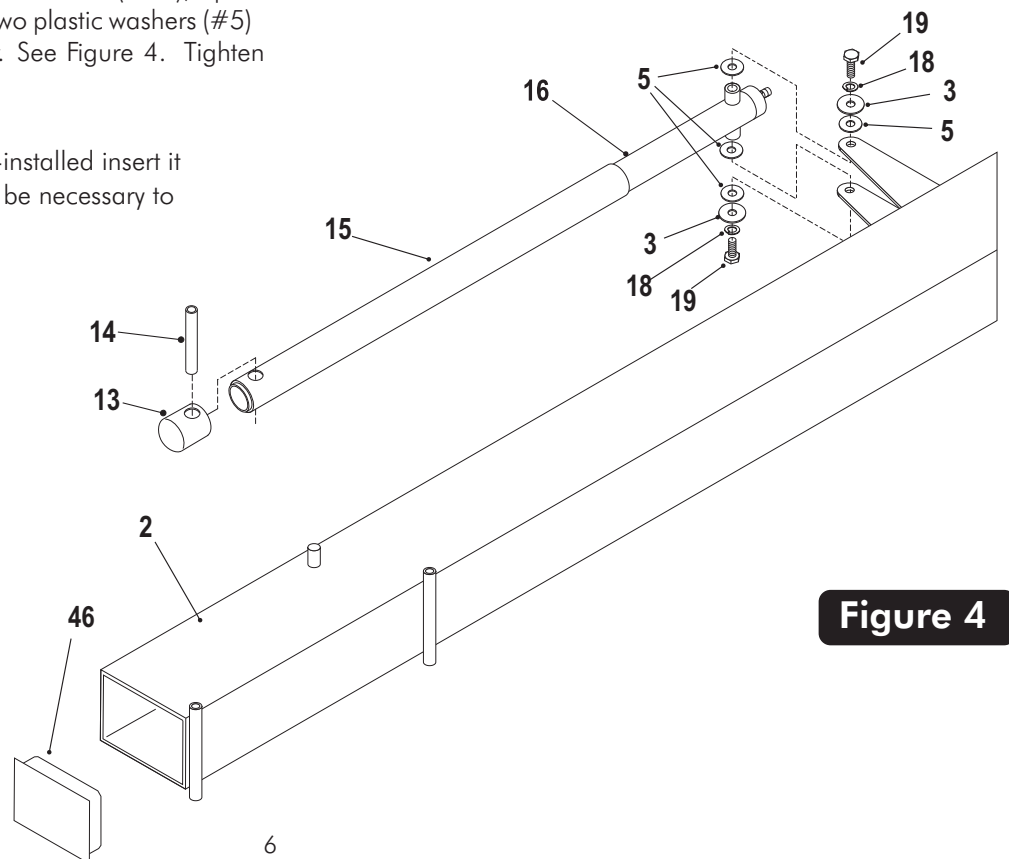

Figure 4
2. Slide Actuator Sleeve (#15) over Actuator (#16) and place Actuator Cap (#13) on top. **Align holes in all 3 parts** and slide Pivot Tube (#14) through holes in Actuator Cap (#13) Plastic Actuator Sleeve (#15) and Steel Actuator (#16) until equal amounts stick out through both sides of actuator. See **Figure 4**.
3. Lay Pole (#2) on its side on two padded saw horses. Attach Actuator (#16) to Pole (#2) using one bolt (#19), split lockwasher (#18), washer (#3) and two plastic washers (#5) to thread into each side of Actuator. See Figure 4. Tighten bolts tight.